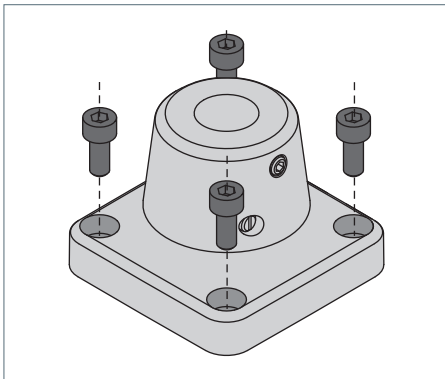

Fig. 1: Fastening element
- ▶ Screw the fastening element to the mounting surface using four suitable screws, see Fig. 1